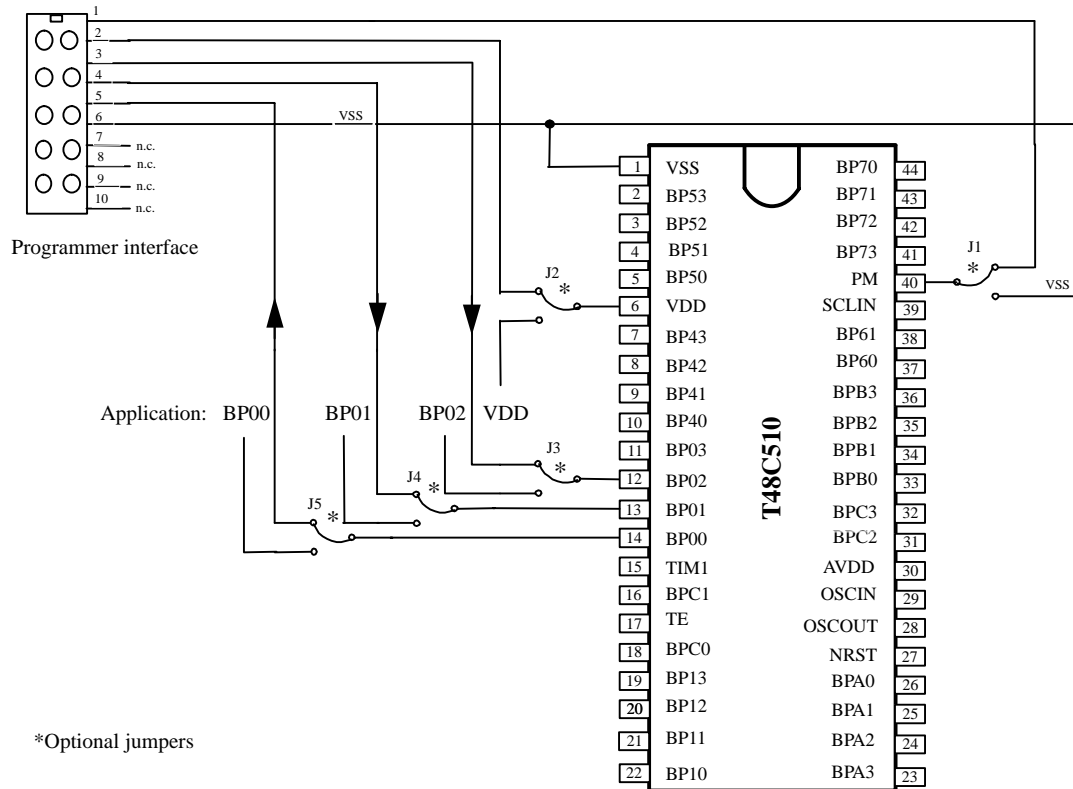

Figure 47. In-system programming
To accommodate the application program and the associated hardware option configuration, the T48C510 is equipped with 2 on-chip EEPROM memory blocks. These are written via a 6-signal Target Programmer Interface (TPI), comprising of 2 power lines (VDD and VSS), a Programm Mode signal (PM) and 3 data lines which are multiplexed onto 3 of the T48C510 functional pins – BP00, BP01 and BP02 (see figure 47). For setting up the required hardware options and downloading these along with the application program into the T48C510, the customer can be supplied with a dedicated PC based programmer software operating under Windows95/98 or NT and an In Circuit Programmer unit (ICP). The ICP is connected to the PC via a standard PC serial interface port and to the target device or application board (for in system programming) via the TPI flat band cable.
For “in-system programming”, the application circuit board must be fitted with a 10-pin male connector to accommodate the TPI connector. To ensure conflict-free access to the target T48C510 TPI related Pins (BP00, BP01, BP02 and PM) it is recommended that these are equipped with jumpers (J5, J4, J3 and J1) to avoid signal contention with other on board drivers sources. ( see figure 47). However, if these can be overdriven, or if the Port 0 is not used in the application, then the jumpers can be omitted or replaced by isolating resistors. Prior to connecting the TPI, all other application power supply sources should be disconnected from the application circuit board. Should